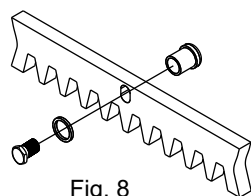

Fig. 8
6.2. Fit the bolts to each section of rack using the provided blocking screw. Make sure the bolts are placed in the upper part of the holes (See Fig. 8) ;